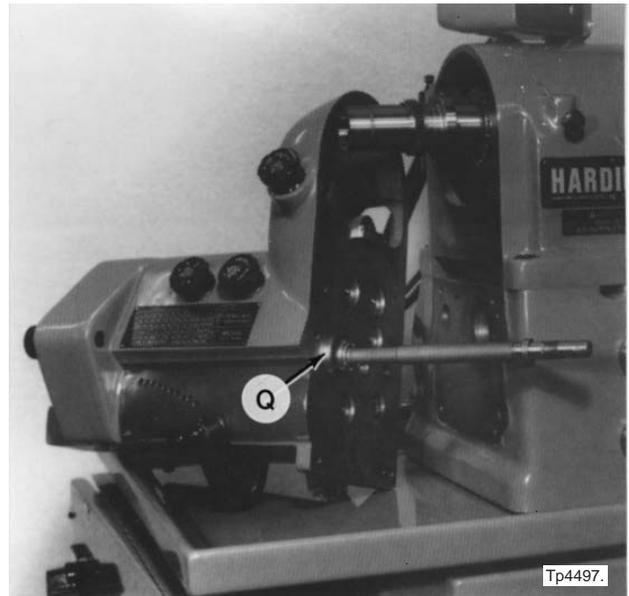

Figure 4.41 - Gearbox Removal
16. Remove the gearbox by pulling it straight off the headstock. Refer to Figure 4.41 .